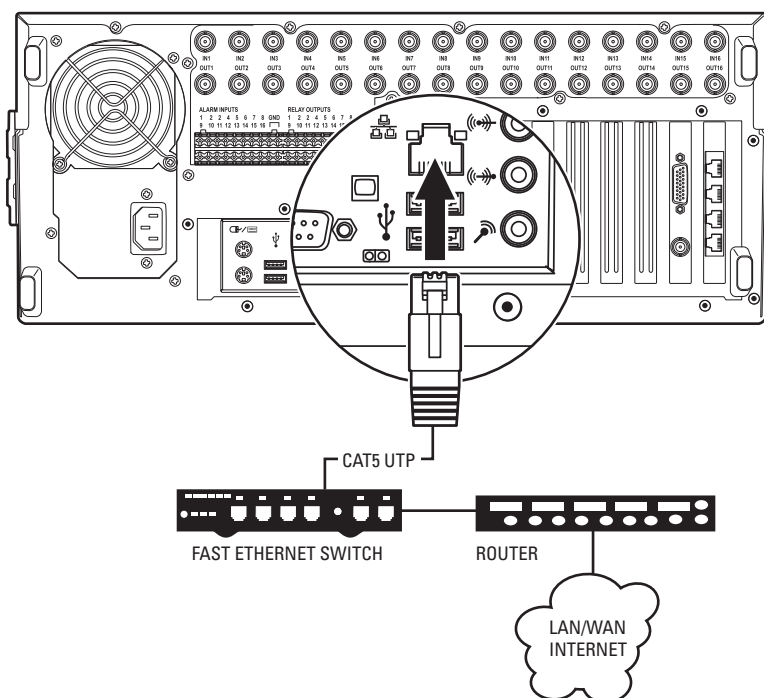

Figure 10. LAN/WAN Cable Connection
1. Connect one end of the UTP cable to the network port on the back panel of the DX8100 as shown in Figure 10.